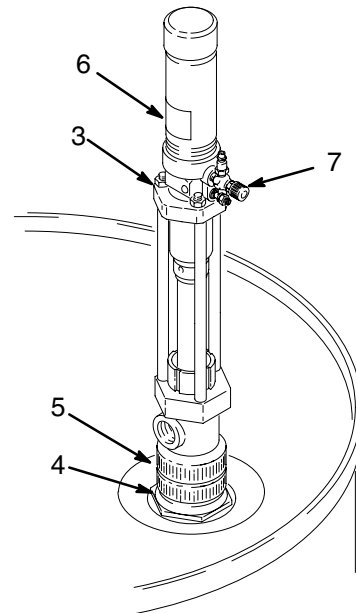

Fig. 2
4. Install the 1:1 ratio feed pumps (3) in 55 gallon drums of ISO and RES. Order Part No. 226946 for the pumps, **or** Part No. 217381 for the Feed Pump Kit which includes an Air Dryer (106493), two 1:1 Fast-Flo pumps (226946), two feed hoses, three air hoses, and related fittings. Manual 307552 contains installation and operation information.
- a. Screw the bung adapter (4) and pump tightly into the drum cover. Then tighten the nut (5) firmly to complete the airtight seal. See Fig. 2.
- b. Separate the ISO/RES identification label (6) along the perforation. Clean the surface of the air motor with solvent and apply the appropriate label (RES or ISO) to identify the chemical being pumped. See Fig. 2.
- c. We recommend installing an air regulator near the feed pump air inlet to control pump speed. Remove the air valve (7). Install the regulator and pin fitting using suitable adapters and thread sealant on the male threads. Order Part No. 206199 for an air regulator and gauge.